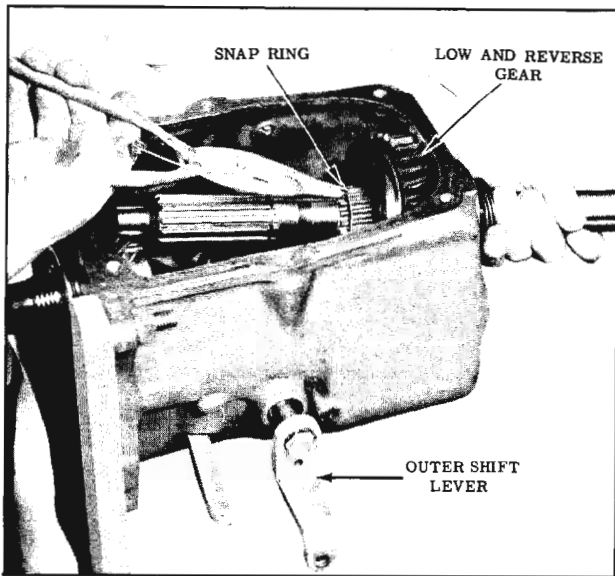

Fig. 11-12 Low and Reverse Gear Snap Ring
9. Remove the low and reverse gear retaining ring and slide the gear off the main shaft. (Fig. 11-12)
11. Loosen the outer shift lever bolt. Position the lever so that the inner shift levers are vertical and remove the outer shift lever. (Fig. 11-12)